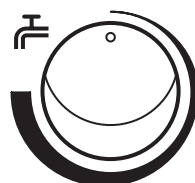

Fig. 8 Domestic Hot Water
3. **Domestic Hot Water:** The temperature of the domestic hot water can be adjusted by turning the control knob clockwise to increase up to a maximum of 65° C (Fig. 8).